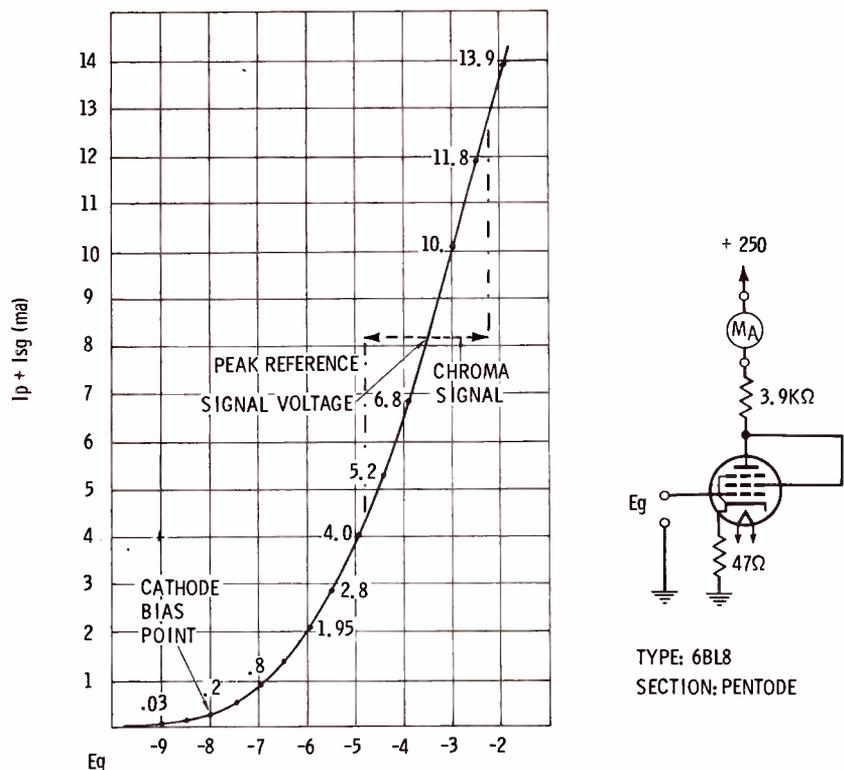

Fig. 5. Characteristics of the 6BL8.
taneous grid-cathode voltage. This voltage is the sum of three potentials: (1) the cathode bias, (2) the instantaneous reference-signal voltage, and (3) the instantaneous chroma-signal voltage. For example, if the chroma and reference signals are 180° out of phase, the control grid is nominally 1.25 volts positive at the same instant that the cathode potential is + 3.5 volts (bias less the peak reference signal of 4.5 volts.) Thus, the total grid-cathode voltage is -2.25 volts. From Fig. 5, the tube current is about 12.7
In the example just cited, the instantaneous peak tube current reaches its maximum value. The minimum instantaneous peak current may be approximated by considering the effect on tube conduction of in-phase chroma and reference signals. In this case, the grid is maximum negative at the same instant that the cathode is maximum negative (minimum positive) and the instantaneous grid-cathode potential is -4.75 volts. Again referring to Fig. 5, the current is approximately 4.5 ma. A third condition which is easily described is the 90° or 270° phase relationship. In this case, the chroma signal is passing through zero when the reference signal is maximum negative, and the peak tube current is the same as if no chroma signal were applied, 8.2 ma.